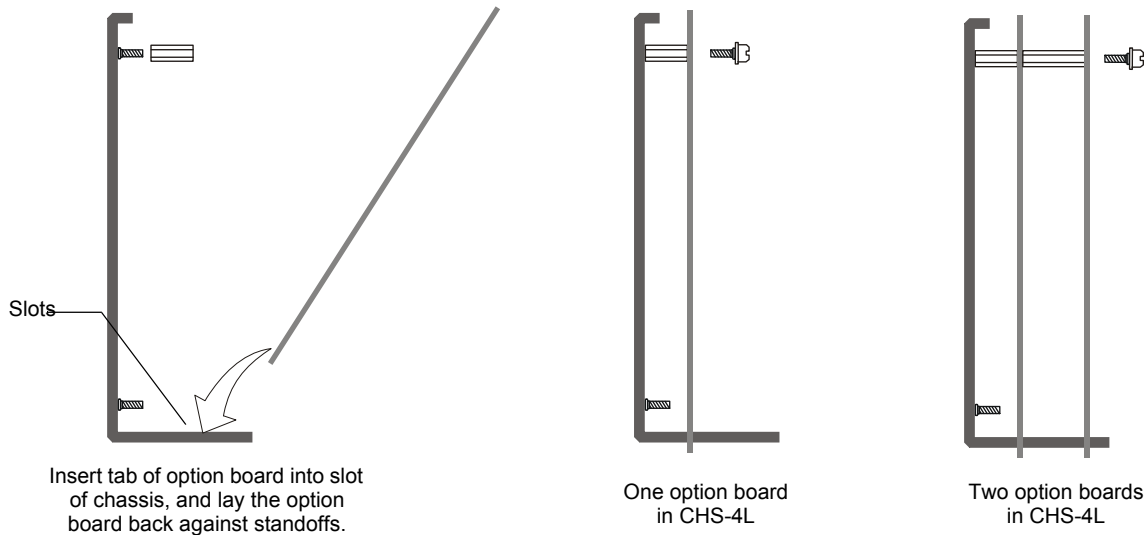

Figure 3 Mounting NCM in a Chassis (CHS-4L Shown)
- CHS-4/4L/4N, CHS2-M2, CHS2-M3, CHS-M3, or NFS-320 enclosure: Mount the NCM in standard option module positions as described in your control panel installation manual. Figure 3 shows CHS-4L as an example.